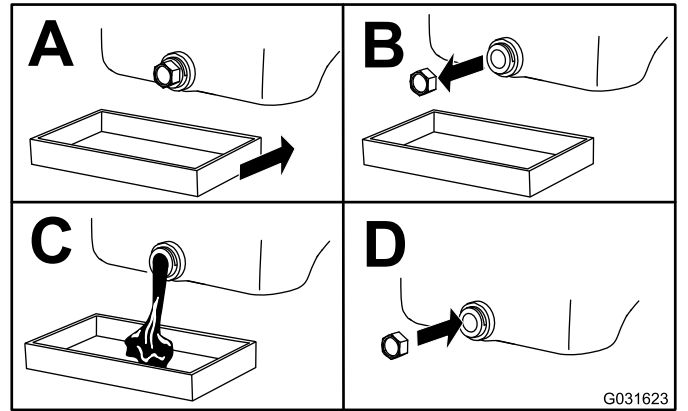

Figure 61
5. Change the engine oil as shown in Figure 61.